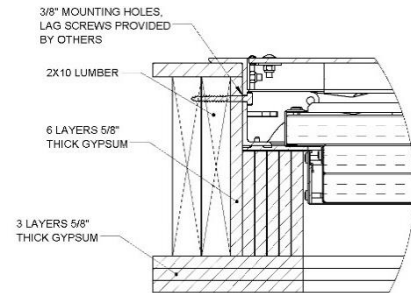

Figure 3
- a. With two or more people, set the floor door in place and secure to the mounting surface with bolts (For existing concrete openings, 3/8-inch anchor bolts are recommended (Figure 1 & 2). For existing wood openings 3/8-inch lag bolts are recommended) (Figure 3 & 4). Secure Hinge side frame first.